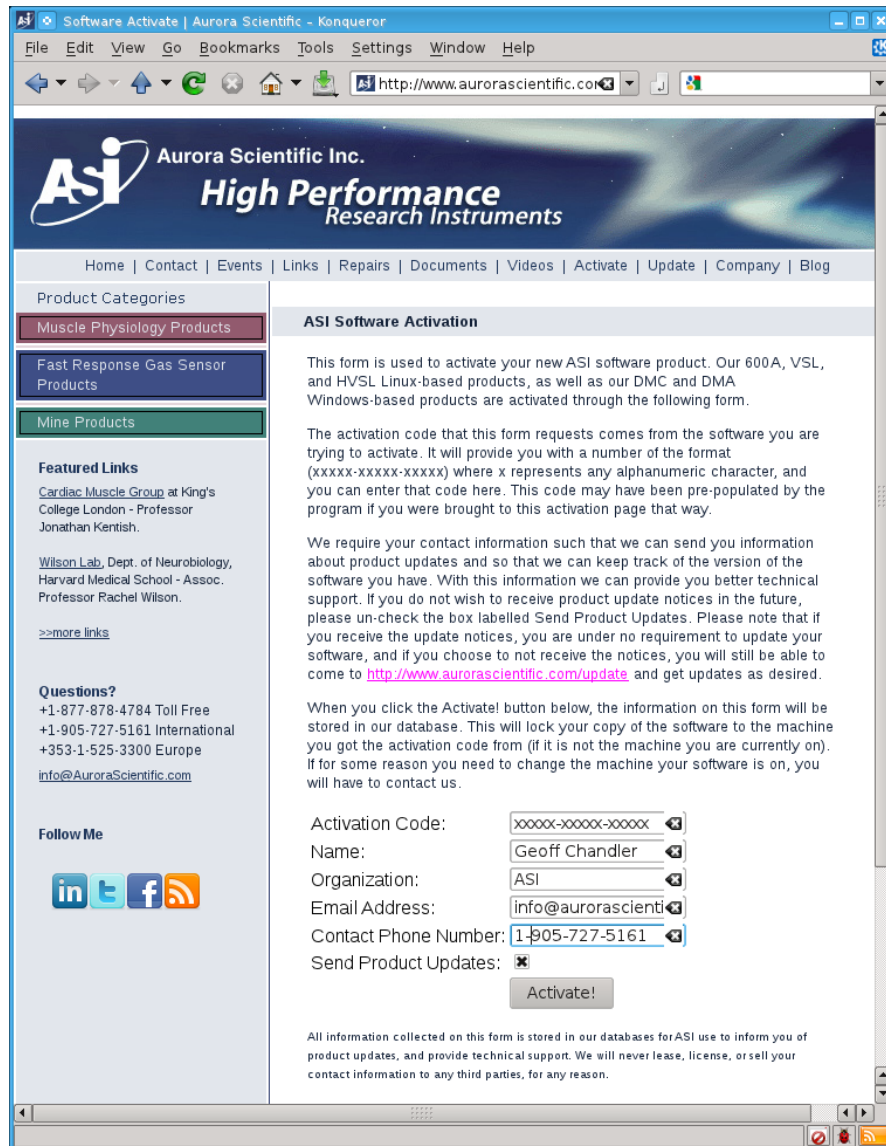

Figure 1 ASI Product Activation Website
3. Enter the Activation Code returned by the program, your contact details and then click on the Activate! button. See Figure 1.